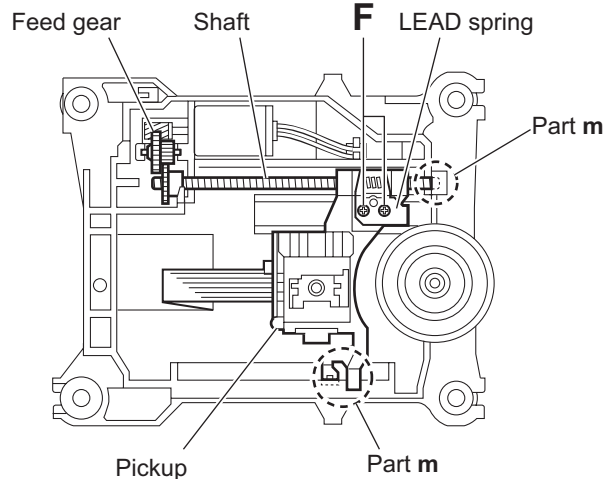

Fig.8
- Remove the two screws **F** attaching the LEAD spring and then take out the LEAD spring. (See Fig.8)
- Take out the feed gear, and then remove the shaft of pickup from part **m** of the traverse mechanism assembly. (See Fig.8)
- Remove the pickup from part **n** of the traverse mechanism assembly and then take out pickup with shaft. (See Fig.8)
- Release the shaft from pickup. (See Fig.8)
- Attach the shaft to pickup. (See Fig.8)
- Fit the pickup to part **n** of the traverse mechanism and then attach the end of the shaft to part **k**. (See Fig.8)
- Attach the LEAD spring and feed gear. (See Fig.8)